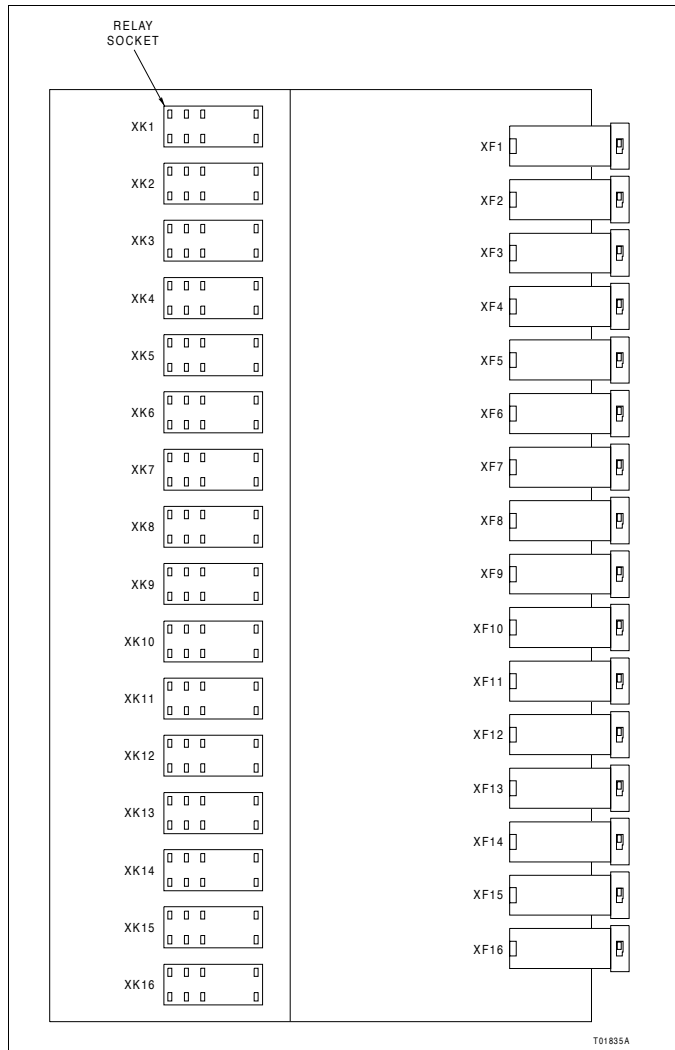

Figure PR32-2. I/O Board Layout (Shown Without Relays)
- ☐ 2. Pull the existing relay from its socket XK1 through XK16 (Fig. PR32-2). Rock the relay from side to side to loosen and remove it.